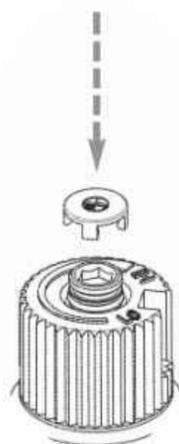

Fig.6
- 17) Re-assemble the black protection cap (Fig. 6).